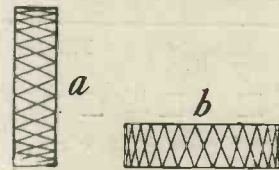

Fig. 2.—Even in this position there will be coupling.
to place the A.T.I. as at *a* in Fig. 2, and the anode inductance in the position shown at *b*. This will not give anything like zero coupling, as you can easily prove by experiment, if you have a
A.T.I. mounted on one side of the cabinet, whilst *b* and *c* are the anode inductances mounted upon the panel. Exactly the same rules apply to low-frequency intervalve transformers, which are frequently wrongly placed in the position shown in Fig. 2, with a bad effect upon reception.